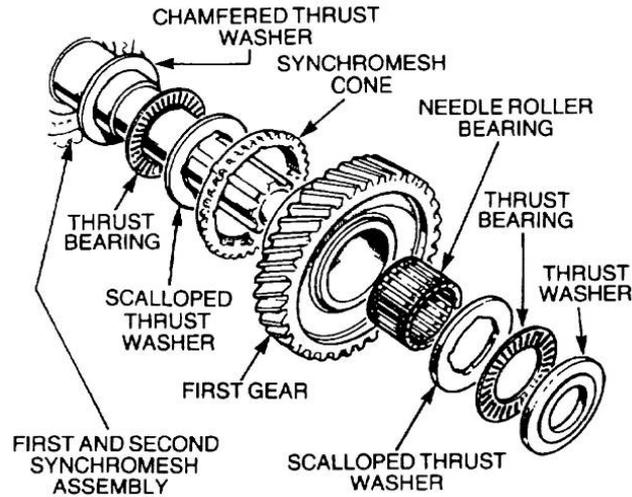

Figure 184 Installation of First Gear
- r. Install a synchromesh cone along the rear end of the mainshaft and engage the cone teeth in the first and second synchromesh sliding clutch. Position a chamfered thrust washer (with the chamfer towards the radius on the gear), a thrust bearing and a scalloped washer, then install the first gear and a new needle roller bearing. Ensure that the gear synchromesh teeth are fitted towards the synchromesh assembly (Figure 184). Install a scalloped thrust washer, a thrust bearing and a stepped thrust washer with the stepped face outwards.